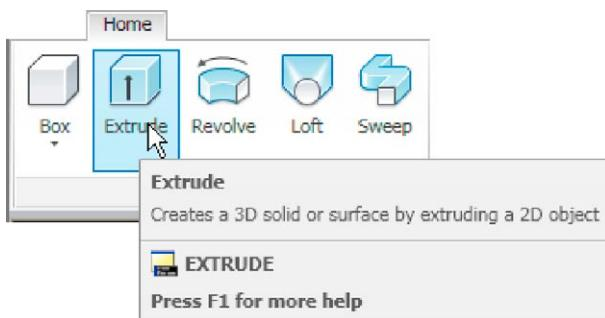

Fig. 12.12 The **Extrude** tool from the **Home/Create** panel
The **Extrude** tool can be called with a *click* on its name in the **Home/Create** panel (Fig. 12.12), or by *entering extrude* or its abbreviation **ext** at the command line.
3. Call **Extrude** (Fig. 12.12). The command line shows: